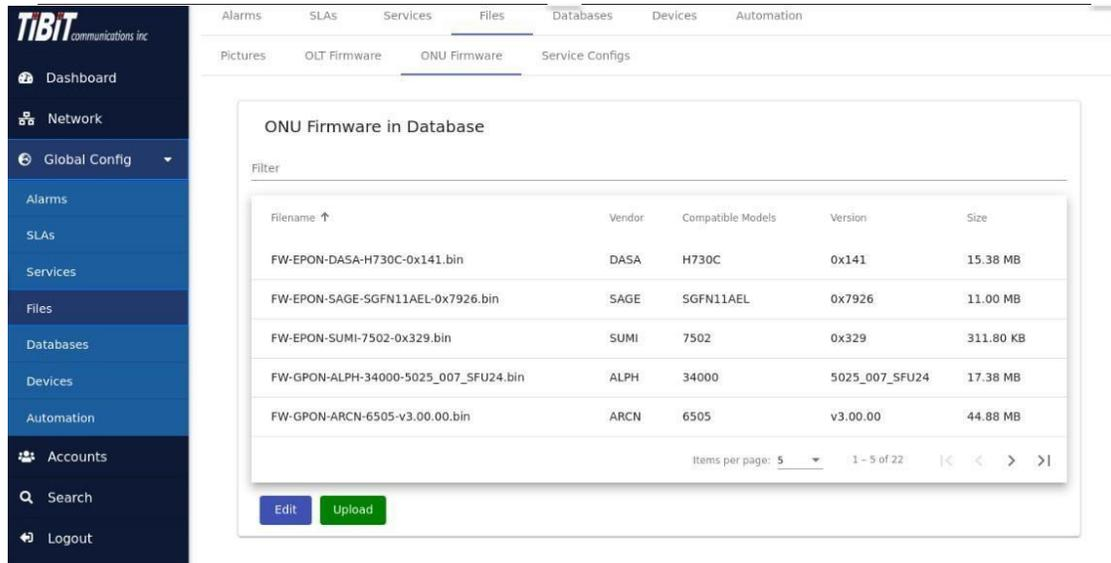

Figure 3.1-1
3. As shown in Figure 3.1-1, Global Config -> Files -> ONU firmware-> Upload from "sf\_shared" (This is the folder where the new firmware version is stored).